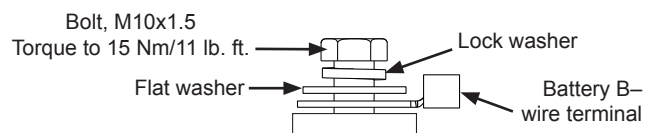

Figure 3: B- Terminal Hardware Stacking Order
- Connect vehicle B- cable to alternator B- terminal. Install B- hardware in stacking order shown in Figure 3. Torque to 15 Nm/11 lb. ft.